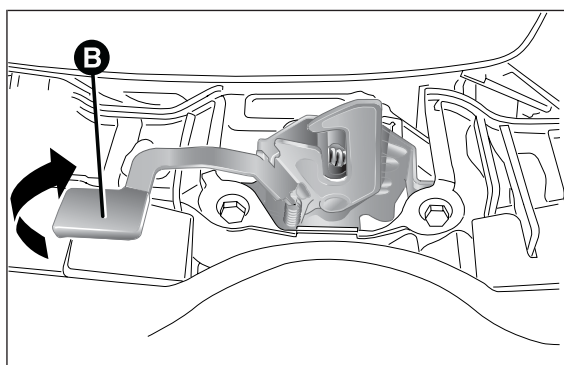

fig. 58
- ☐ move lever B fig. 58 to the left as shown in the figure;